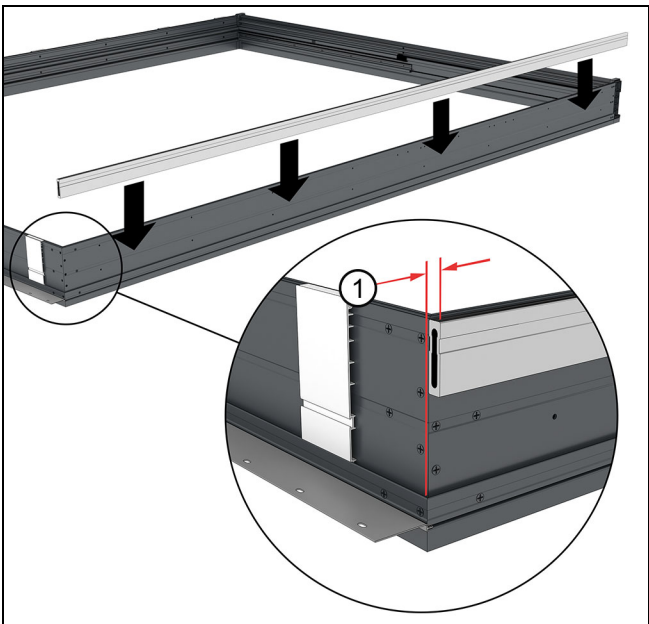

Figure 26
1. Install the aluminum mull pin on the second door about 5/16" below the top of the door frame. Clamp the mull pin to the side of the door. See Figure 26.